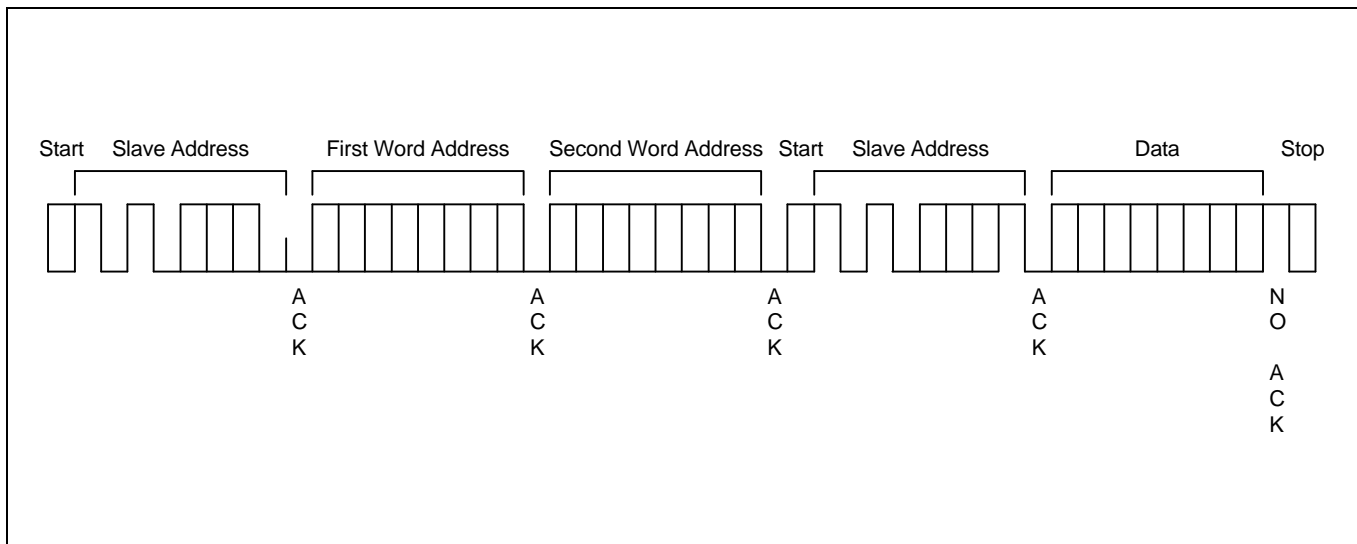

Figure 8-14. Random Address Byte Read Operation
5. The S524AD0XD1/D0XF1 stops transmitting data and reverts to stand-by mode (see Figure 8-14).